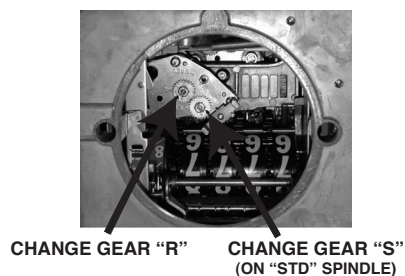

FIGURE 6
2. Looking into the bottom of the register, determine the number of teeth on the "R" and "S" change gears. (See Figures 6 & 8.)
When one register is removed and another substituted: (1) Check the number of teeth on the "change gears" (See Figures 6 & 8). They must be the same as gears on the old register and on the same respective spindles. The number of teeth is stamped on each gear. To remove these gears, close the split end of the spindle slightly with a pair of pliers and pull off the gear. After putting on a gear, spread the end of the spindle slightly. (2) Make sure that the position of the "Gear Shifter" on the 800 series register is the same on the new register as on the old one.